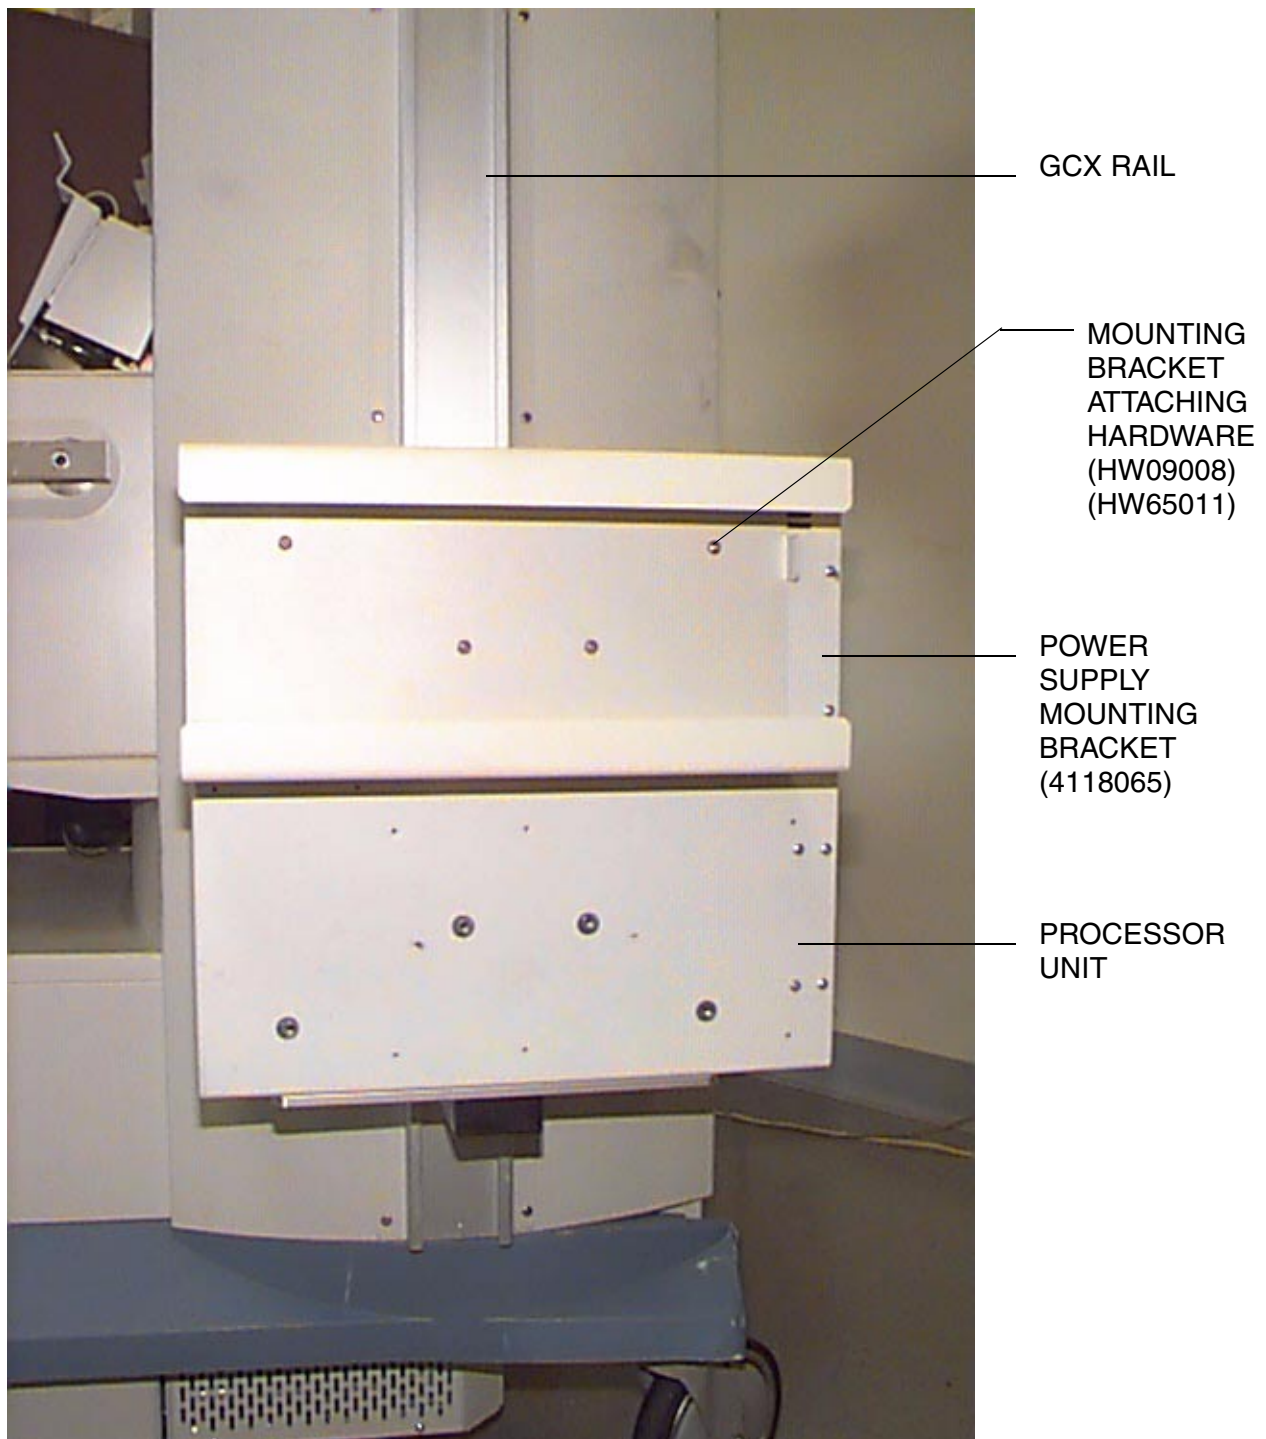

FIGURE 5. New Power Supply and Mounting Configuration
6. Using a standard Allen wrench, attach new mounting bracket through existing holes in the processor unit with four button head screws and four lock washers. See Figure 5 for new power supply mounting configuration.